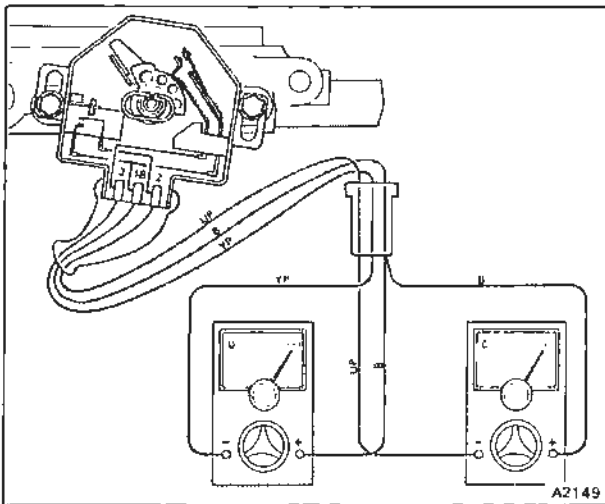

Fig. E6-5 Throttle position switch – part load condition
- e. With the throttle plates just off the idle position (confirmed by an audible click) switch contacts 2, 3, and 18 are open circuit i.e. not connected (see fig. E6-5).